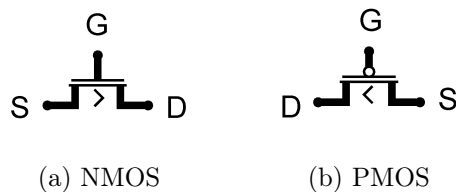

Figure 5.0.1: Wiring convention for FETs in *LogiSim*.
- Pay attention to the wiring conventions for NMOS and PMOS transistors in *LogiSim*, as shown in Figure 5.0.1. Note the direction of the caret (^) and do not confuse source and drain.